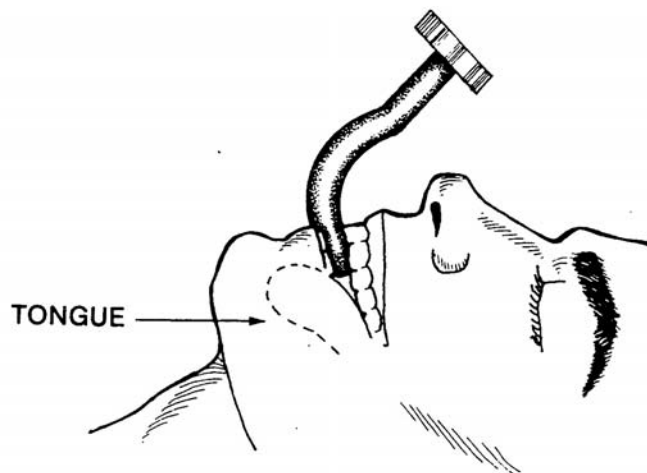

Figure 2-4. Tip of the oropharyngeal airway placed into the mouth.
(1) Place the tip of the airway into the patient's mouth (figure 2-4).